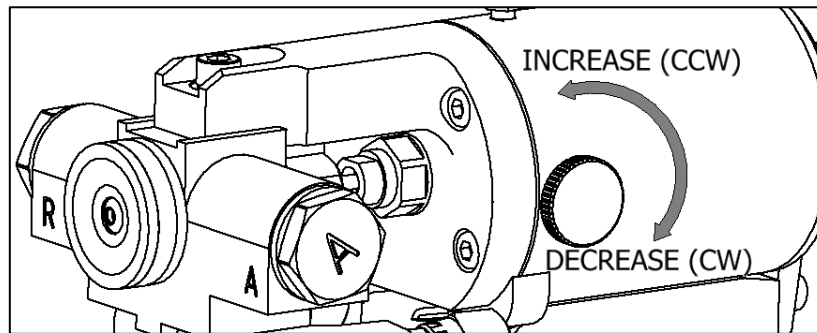

Figure 14: Air Cap Valve Adjustment
2. If excessive overspray is observed and/or spray pattern is not satisfactory, decrease air flow to **Air Cap** by turning **Air Cap Adjustment Valve** clockwise (see Figure 14).